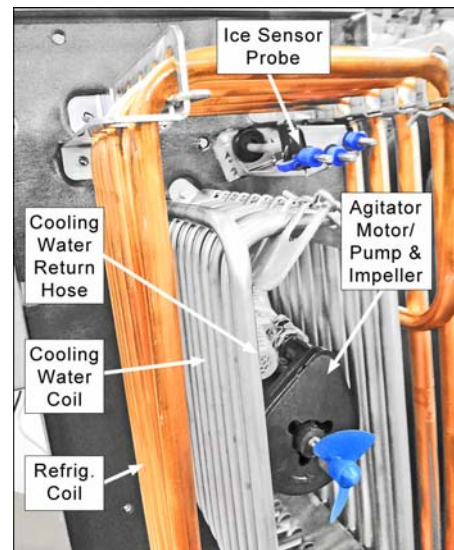

Figure 6-13 - Agitator Motor Location & Underside
The agitator motor is located centrally on the ice bank cover plate (Fig. 6-13). Obtain the most convenient access by removing the air compressor. Remove the thumbscrew shown to unfasten the agitator motor from its mounting.
- 5) Loosen the thumbscrew at the base of the agitator motor (Fig. 6-13).